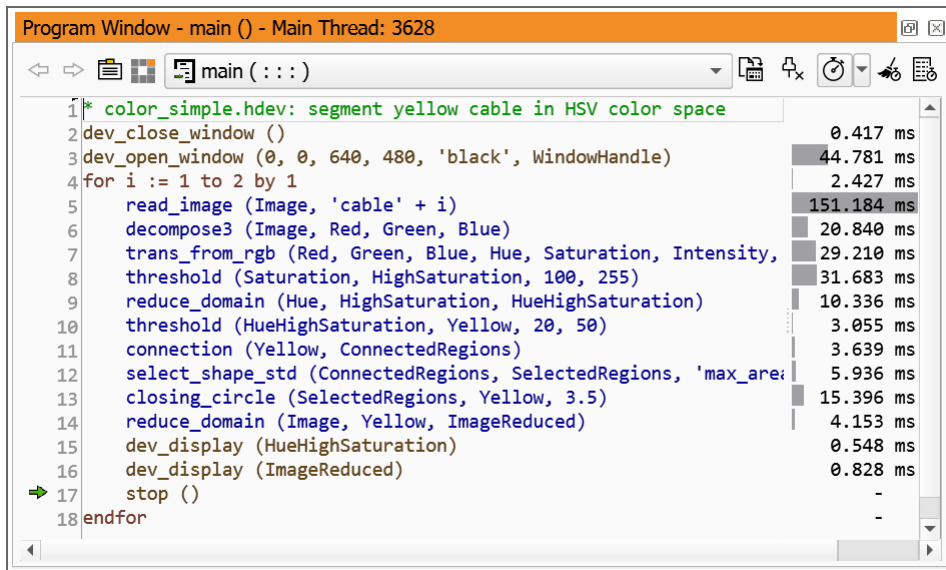

Figure 6.65: Selecting program lines in the profiler.
- Drag over a range of lines in the profiler area (see figure 6.65).